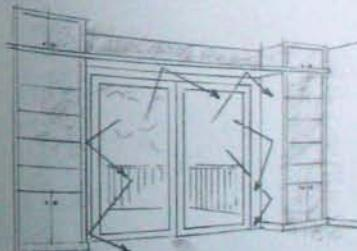

Figure 3
- First, see if you can reflect light from an existing opening farther into the space by painting the opposite and/or adjacent wall and ceiling a light, reflective color. Extending the jamb of a window with built-in bookcases will also reflect light into the room and give you extra storage (see figure 3).